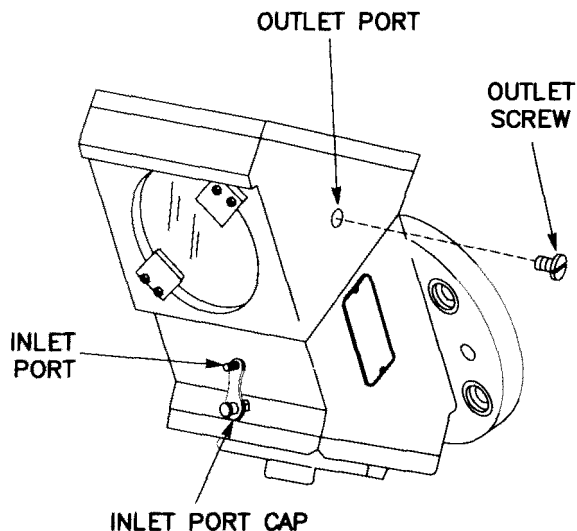

Figure 3-28 M42 Tank Periscope - Late Production
(2) Late Production (fig. 3-28).